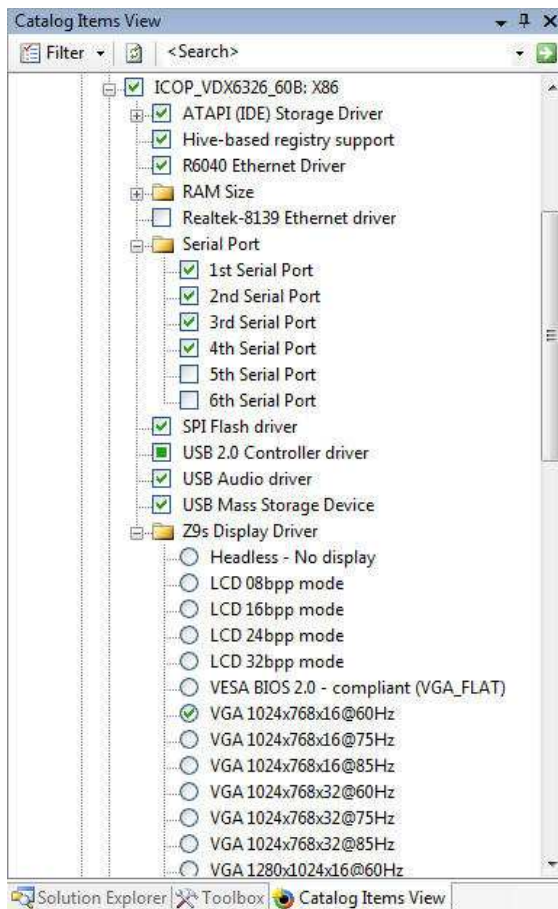

Fig. 14 - Component Catalog
- From the VS2005 IDE, click on the Catalog Items View tab, expand the **\Third Party\BSP\ICOP_VDX6326_60B: x86** folder, as shown in Figure 14.